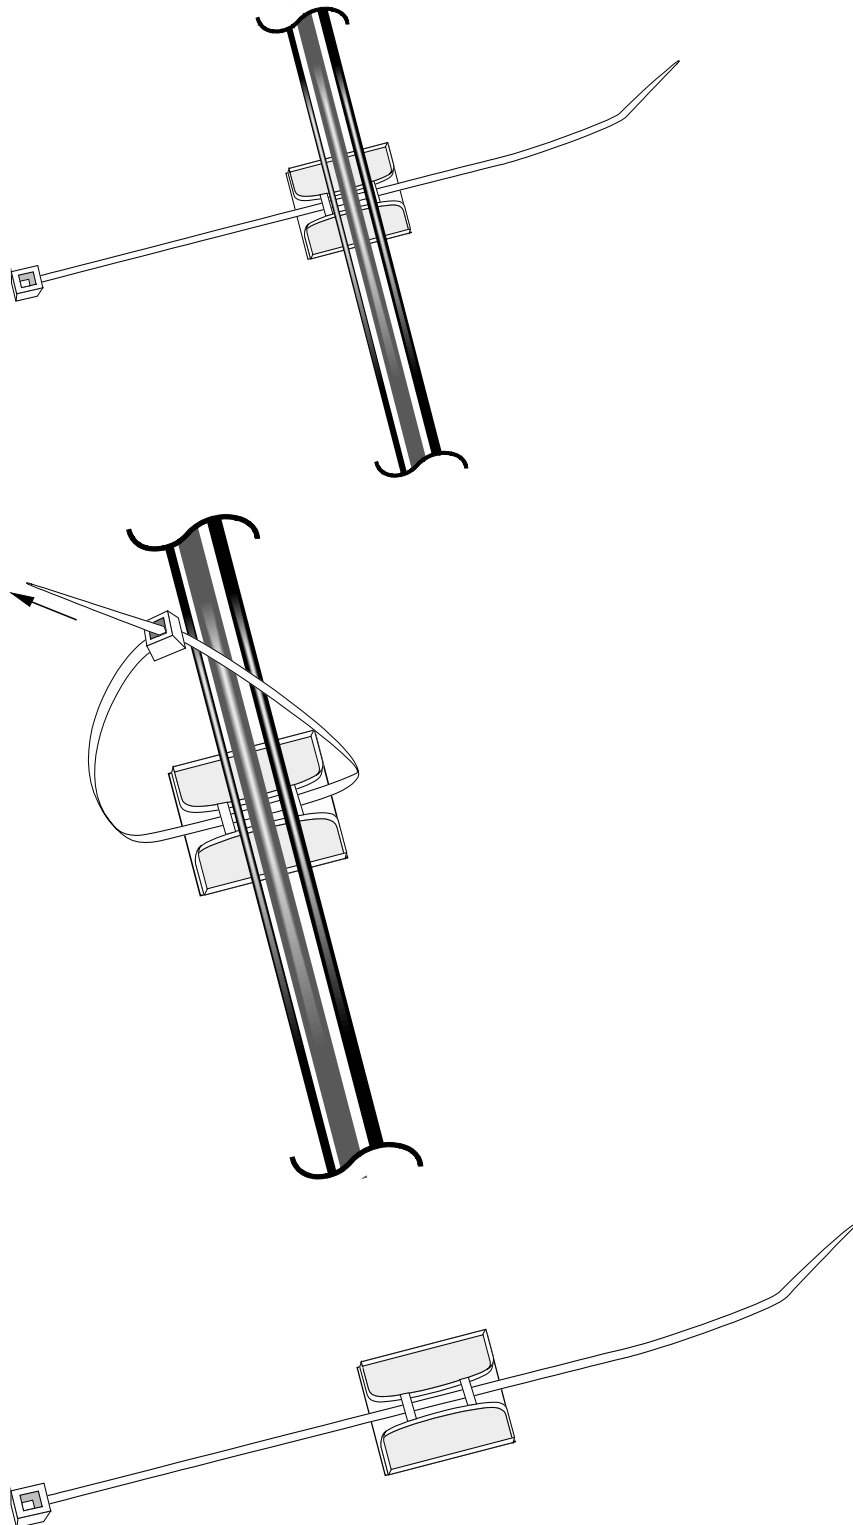
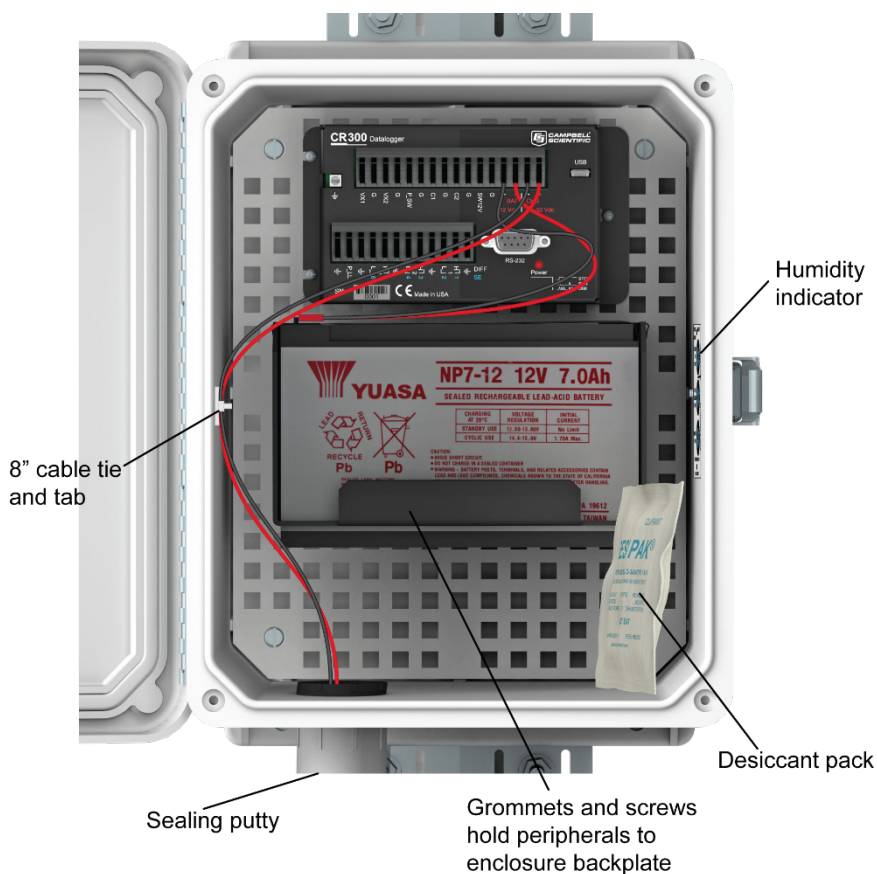

FIGURE 7-2. Securing cables to the cable tie tabs
FIGURE 7-3. Placement of enclosure accessories
3. Secure sensor and peripheral leads to the side of the enclosure using 8-inch cable ties and cable tie tabs (see FIGURE 7-2 and FIGURE 7-3).
Refer to FIGURE 7-3 for steps 3–6.
5. Secure sensor and peripheral leads to the side of the enclosure using 8-inch cable ties and cable tie tabs (see FIGURE 7-3).
Refer to FIGURE 7-3 for steps 5–8.